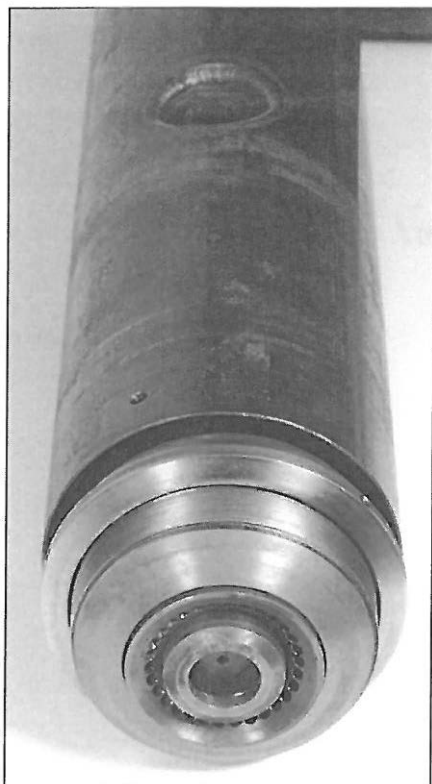

FIGURE 20
3. Install the oil nozzle assembly (see Figure 20) and attach the oil whips to the assembly.